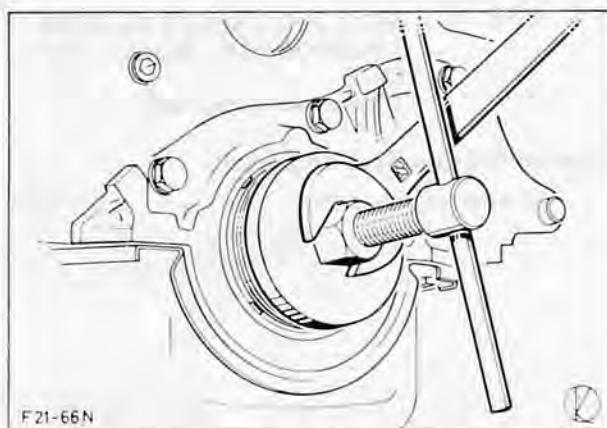

Fig. 209. Remove oil seal using Special Tool 21-010
3. Withdraw oil seal, using Special Tool 21-010, Fig. 209. First completely tighten press spindle, firmly screw taper thread section into oil seal and withdraw oil seal by tightening press spindle.